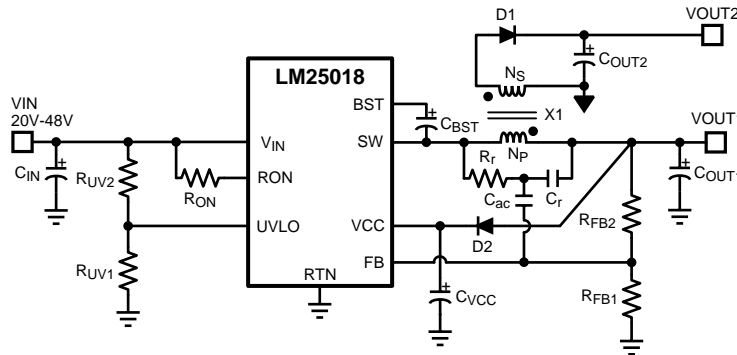

Figure 17. Typical Isolated Application Schematic
An isolated supply using LM25018 is shown in Figure 17 below. Inductor (L) in a typical buck circuit is replaced with a coupled inductor (X1). A diode (D1) is used to rectify the voltage on a secondary output. The nominal voltage at the secondary output ( $V_{OUT2}$ ) is given by: